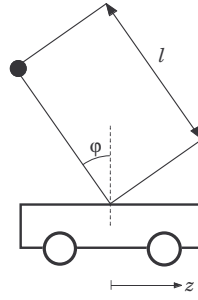

Figure 6.1 Inverted pendulum in exercise 6.4.
6.4 When walking, the body is kept in upright position by some regulatory system. This balancing of the body can be simplified to the problem of controlling an inverted pendulum positioned on a cart, by moving the cart. In Fig. 6.1, a schematic of this inverted pendulum is given.
- 7.4** Subcutaneous Delay: Show that the interstitial glucose value is a first-order low-pass filtered version of the plasma glucose value considering the kinetics according to Fig. 6.1, i.e., that the transfer function is of the form $G = K \frac{1}{1+s\tau}$.